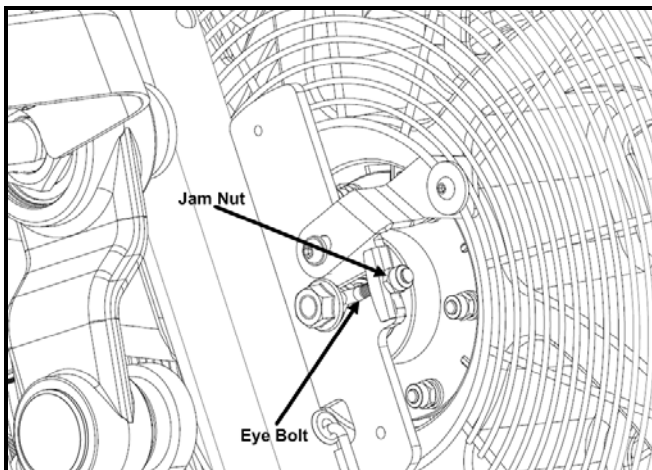
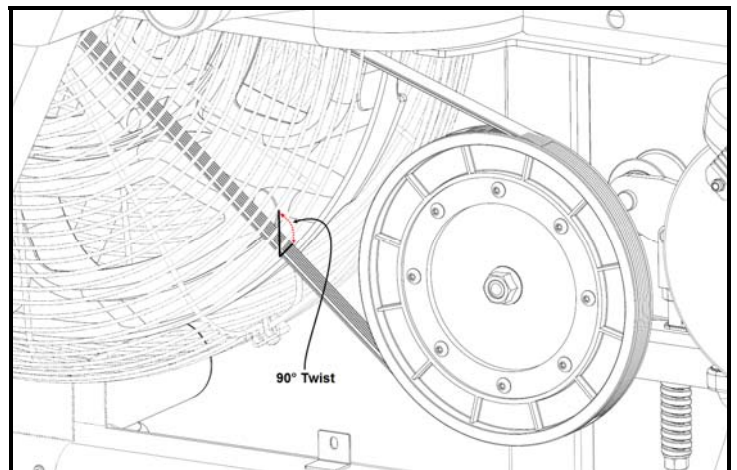

Fig. 17
Fig. 18
20. Verify fan alignment and belt tension by adjusting the jam nuts on the left & right side eye bolts (Fig. 17). Tension should allow for a 90° twist of the belt (Fig. 18) at the center of the fan & transmission pulleys.